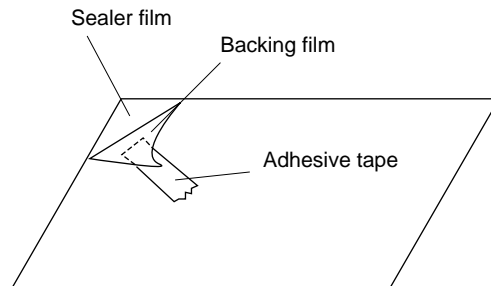

Figure C-8. Sealer film
1. Put the adhesive tape on the backing film of the sealer film as shown in Fig. C-8.